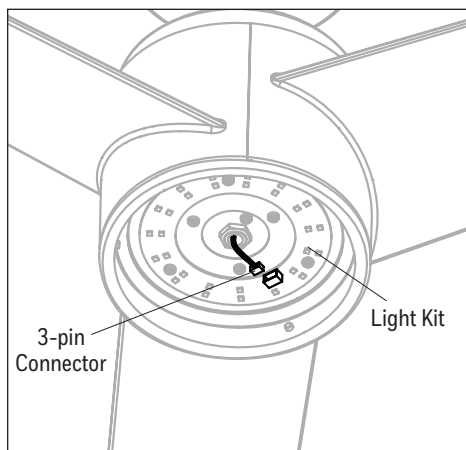

Figure 5.6
6. Then, connect the 3-pin connector from fan to the 3-pin connector from the light kit (Figure 5.6).